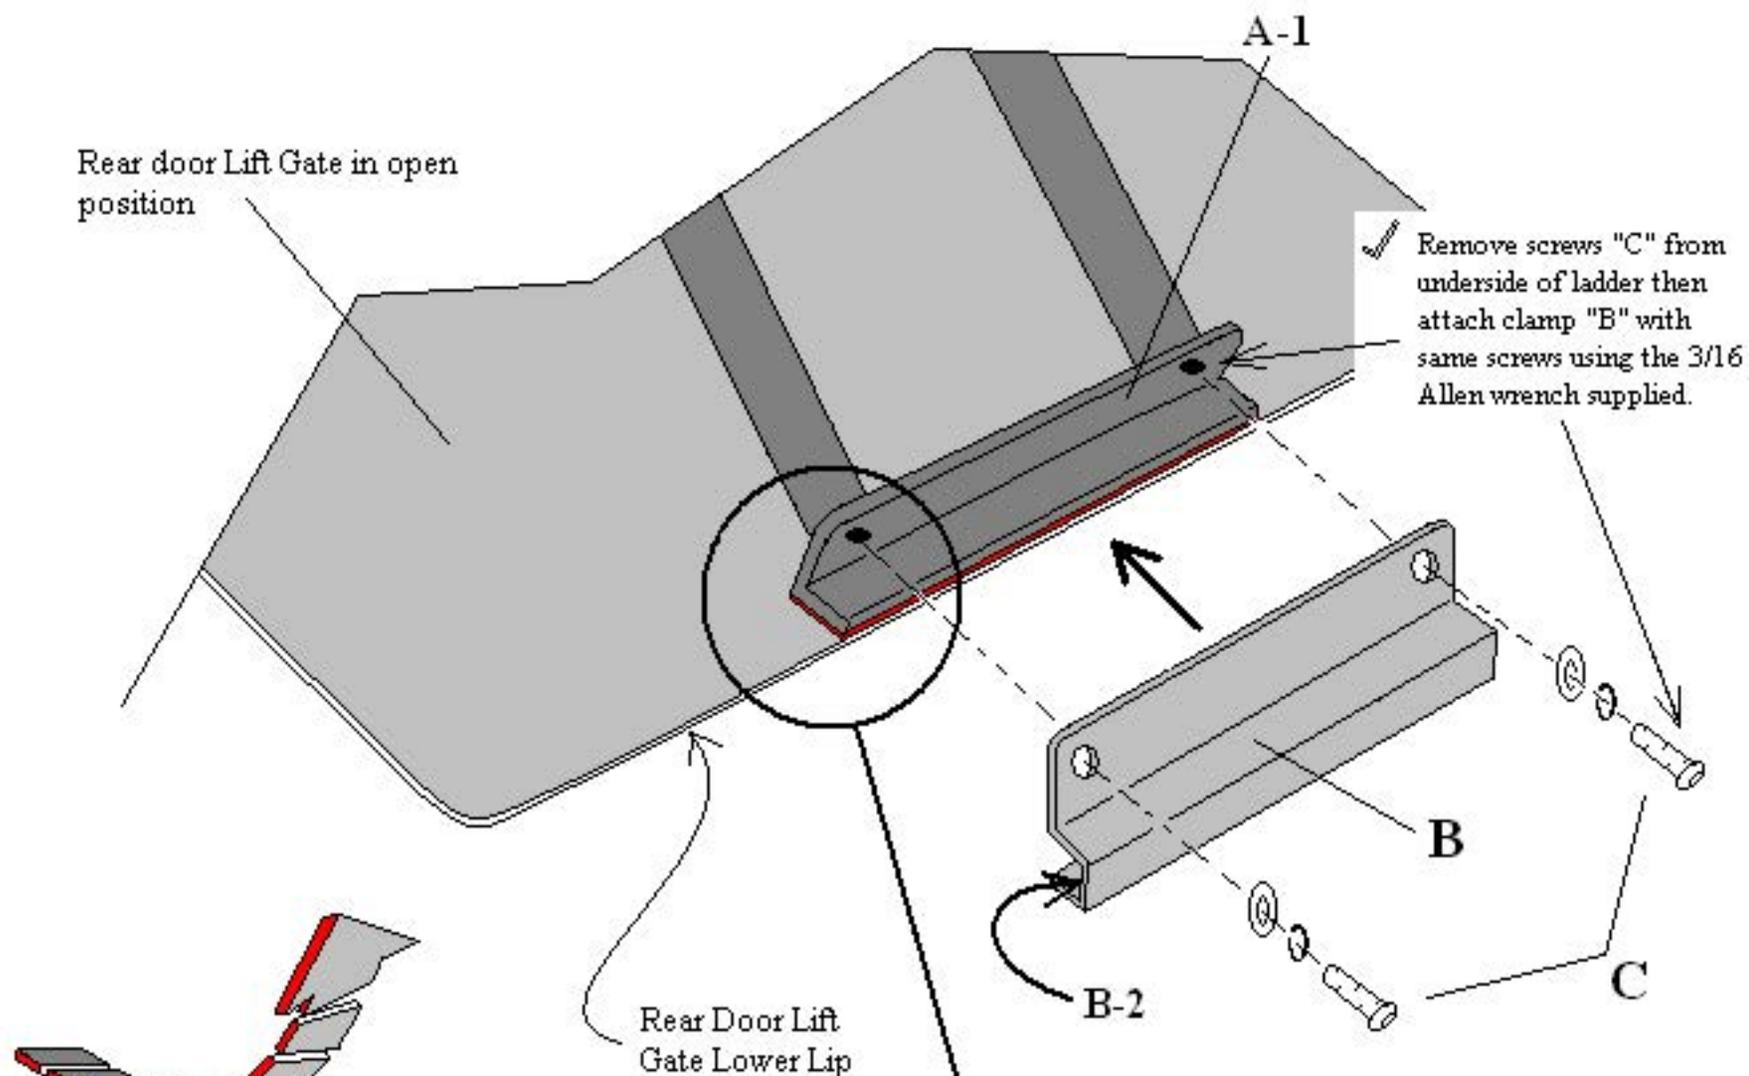
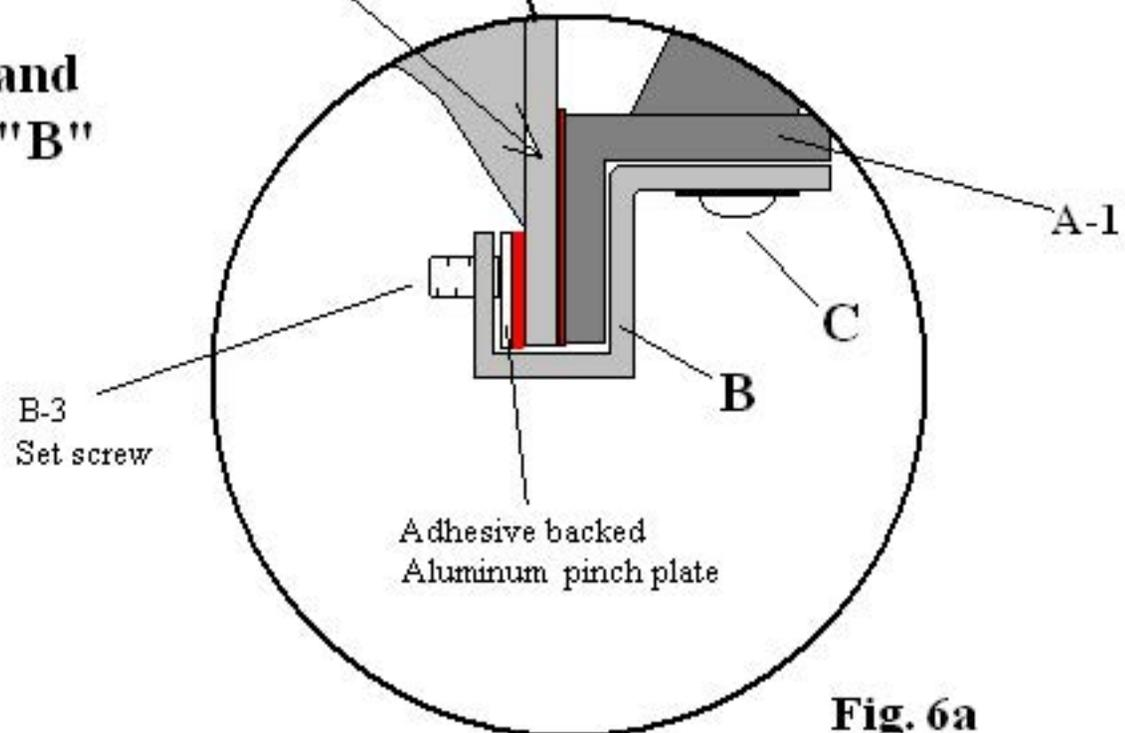

Fig. 6
Fig. 6a
- 8- Refer to page 9 Fig 6 and Fig. 6a with the help of another person while still holding the ladder against the lift gate rear door, open lift gate and install clamp "B" to the bottom of ladder "A-1" and rear door lift gate as shown in Fig 6 Thread the two 5/16-18 x 1" button head screws, lock washers and flat washer just recently removed back into the bottom of the ladder using the 3/16" Allen wrench and fully tighten at this time. Continue to the inside of clamp "B" and fully tighten screws "B-3" using the 1/8" Allen wrench supplied in your kit as shown in Fig. 6a.